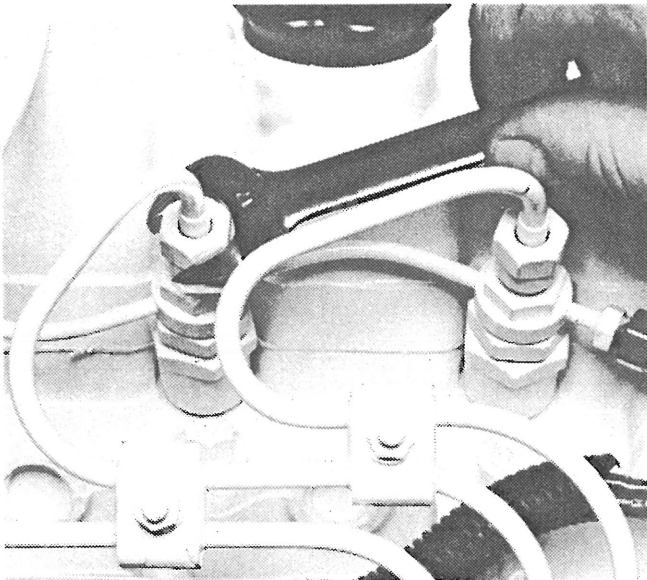

Figure 52 - Remove delivery line flare nuts.
NOTE: If the engine does not start after the above bleeding procedure, the fuel lines to each injector may have to be loosened while cranking the engine to complete bleeding of the system. Tighten lines at injectors after completing bleeding (figure 52).
- To relieve high pressure in the fuel system, slightly crack fuel injection line connectors at each injection nozzle (figure 52).